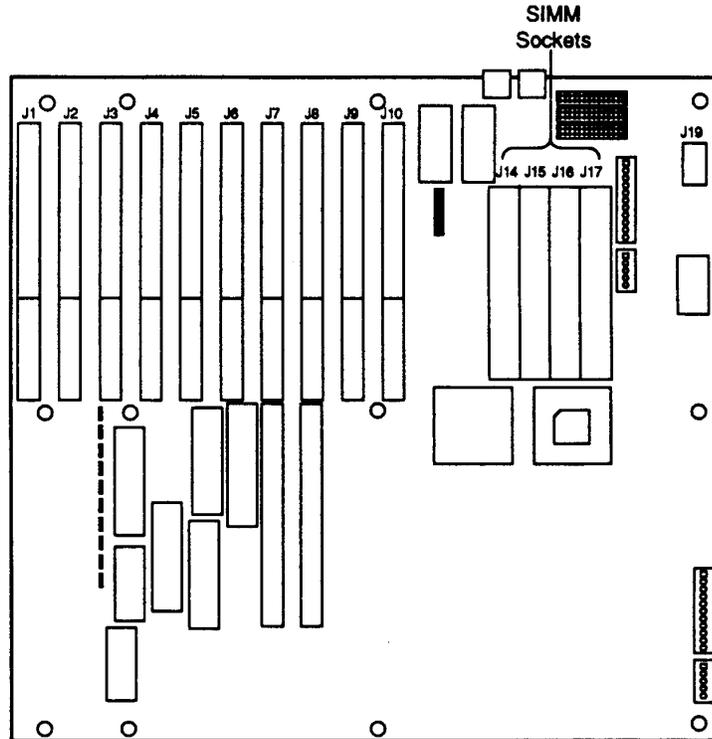

Figure A-8. Location of Memory (SIMM) Sockets on 6386E/33 WGS
1. Locate the empty SIMM sockets, as shown in Figure A-8.